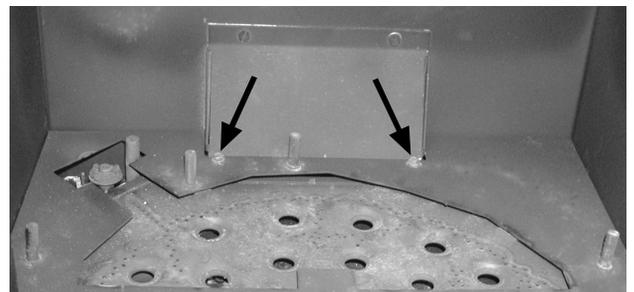

Figure 6. Removing log support tray.
3. Remove the two (2) screws at the back of the fire box that hold the log support tray in place (see Figure 6). Remove the support tray from the fire box